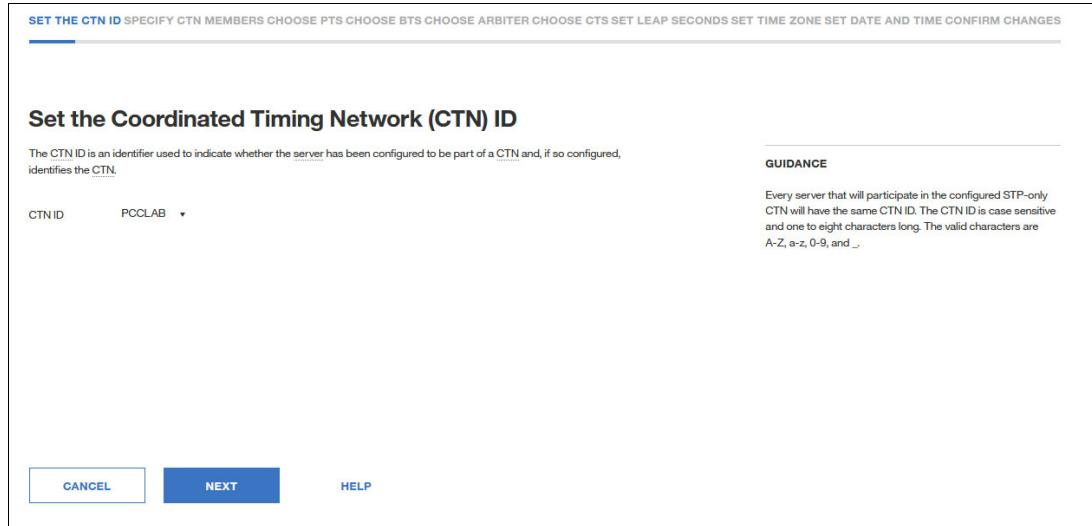

Figure 8-34 Set the Coordinated Timing Network (CTN) ID
3. The **Set the Coordinated Timing Network (CTN) ID** window opens. Enter the CTN ID in the column. Click **NEXT** to continue (Figure 8-34).